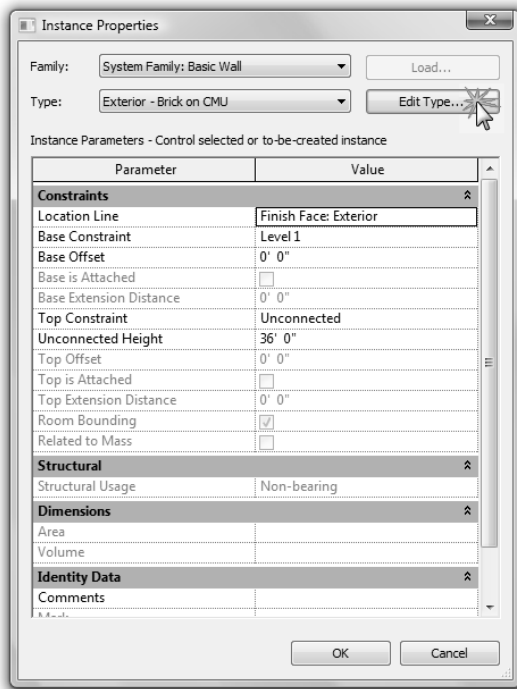

Figure 3-2.3 Instance Properties
6. You are now in the *Instance Properties* dialog box. Click the **Edit Type...** button (Figure 3-2.3).